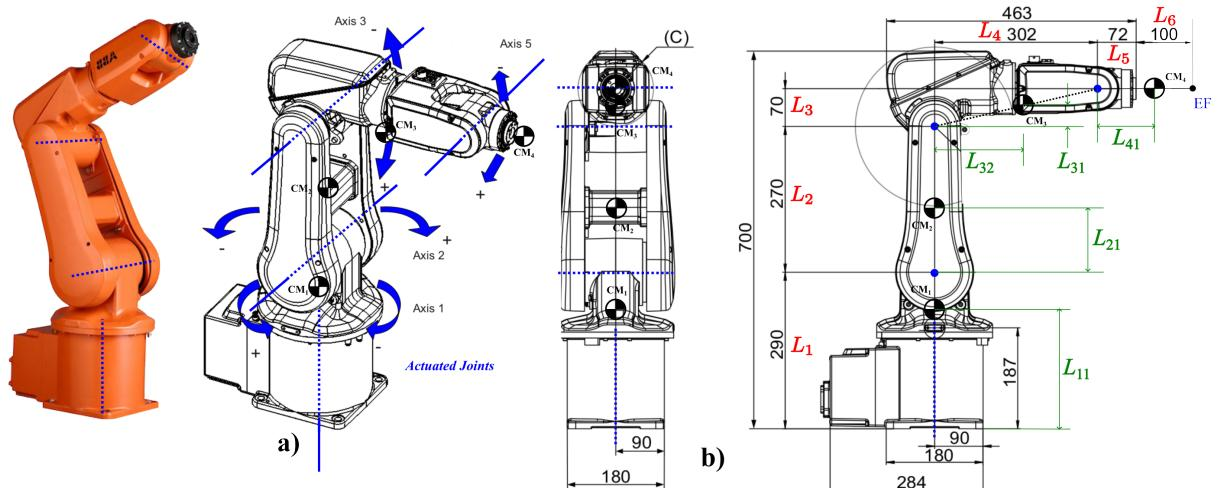

Figure 1: Robot ABB IRB 120: The robot only uses the joints 1, 2, 3, and 5.
The system used in this assignment will be the ABB robot IRB120 (see Fig.1). The ABB IRB120 is a robot with six revolute joints. However, only four of the joints will be used in this assignment. The four actuated joints **Axis 1**, **Axis 2**, **Axis 3**, and **Axis 5** are shown in Fig.1 a), and the physical parameters for the system are shown in Fig. 1 b).
First, compute the relative ( $\mathbf{H}_i^{i-1}, \mathbf{H}_{cm_i}^{i-1}$ ) and absolute Homogeneous Transformation (HT) matrices ( $\mathbf{H}_i^0, \mathbf{H}_{cm_i}^0$ ) to obtain the pose of each link, and center of mass (cm). It is recommended that you use the symbolic functions developed in the Lab 1. Finalize the functions **Model1/abbIRB4.dyn\_params.m** and **Model/getAbsoluteHTcm\_abbIRB4.m**. The first function generates an array with the kinematic and dynamic parameters of the robot. Some of the parameters are already defined in Fig. 1, e.g.,  $L_1, L_2, \dots, L_6$ . You need to calculate the additional parameters in the parameter function. The second function receives a joint position vector  $\mathbf{q} = [q_1, q_2, q_3, q_4]$ , an array with the dynamic and kinematic parameters, and the HT of the robot base ( $link_0$ ) with respect to (wrt) the world coordinated frame (wcf). The output of this function is two Cell Arrays, one with the HTs of each cm wrt the robot base ( $link_0$ ), and the other with the HTs of each cm with respect to the wcf (w). You will also reuse **Model/getAbsoluteHT\_abbIRB4.m** from assignment 1.